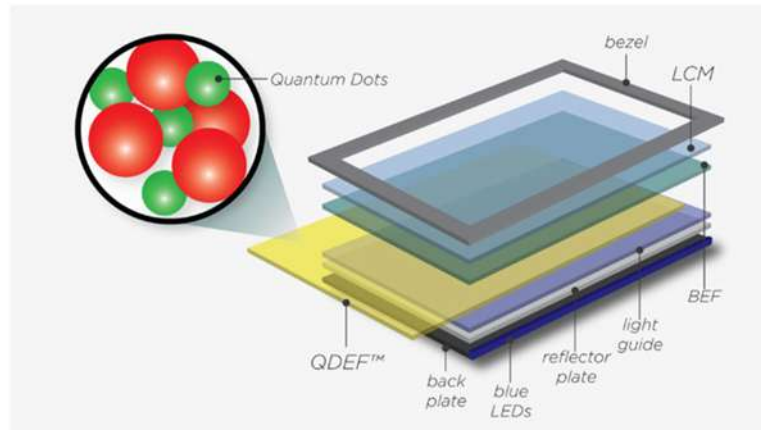

Fig. 6: Exploded view of QD display. QDEF layer is added to conventional LCDs and the back light is changed to Blue LED.
giving rise to many applications. In the language of materials science, Nano scale semiconductor materials tightly confine either electrons or electron holes. Quantum dots are also sometimes referred to as artificial atoms, a term that emphasizes that a quantum dot is a single object with bound, discrete electronic states, as is the case with naturally occurring atoms or molecules. Quantum dots exhibit properties that are intermediate between those of bulk semiconductors and those of discrete molecules. Their optoelectronic properties change as a function of both size and shape. Larger QDs (radius of 5–6 nm, for example) emit longer wavelengths resulting in emission colours such as orange or red. Smaller QDs (radius of 2–3 nm, for example) emit shorter wavelengths resulting in colours like blue and green, although the specific colours and sizes vary depending on the exact composition of the QD. Quantum dot (QD) technology is emerging as a novel back- light source that could help to increase the colour performance of LCDs. QDs are composed of nanoparticles with diameters of 5–20nm. When charge carriers (electrons and holes) are confined to such small particles, the larger band gap of the surrounding material creates a barrier. The discrete energy levels that arise as a result of this barrier consequently dictate the material properties. This effect (size quantization) gives QDs several attractive features, including high quantum efficiency, a broad absorption band, narrow emission line width, and a controllable emission peak. Figure 5 shows the emission properties of the QD samples that we used, which have a cadmium sulphide/selenide core and a zinc sulphide shell (CdS_xSe_{1-x}/ZnS: the ratio of CdS is a variable, x, while the ratio of CdSe is 1–x). Their luminescence is quite narrow (full width at half-maximum is 30nm), which yields highly saturated colour emissions. In addition to this, the emission wavelength can be tuned by varying both the size and composition of the QD during material synthesis. Cadmium Selenide QDs of different sizes, for example, can emit light from blue (450nm) through to red (700nm) wavelengths. So adding a Quantum Dot Layer to the LCD layers and changing the back light LED to a blue LED can make an LCD to QD display as you can see in Figure 6. [1], [7], [8], [17].